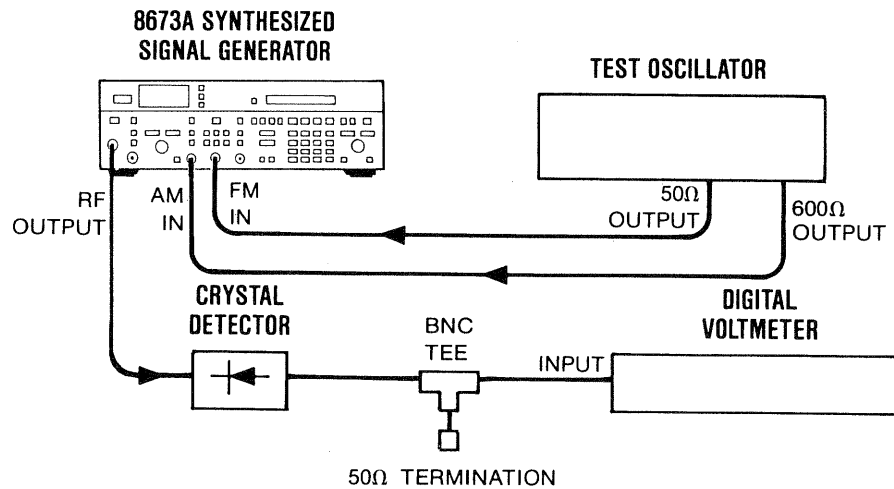

Figure 4-11. Incidental AM Test Setup
1. Connect the equipment as shown in Figure 4-11.